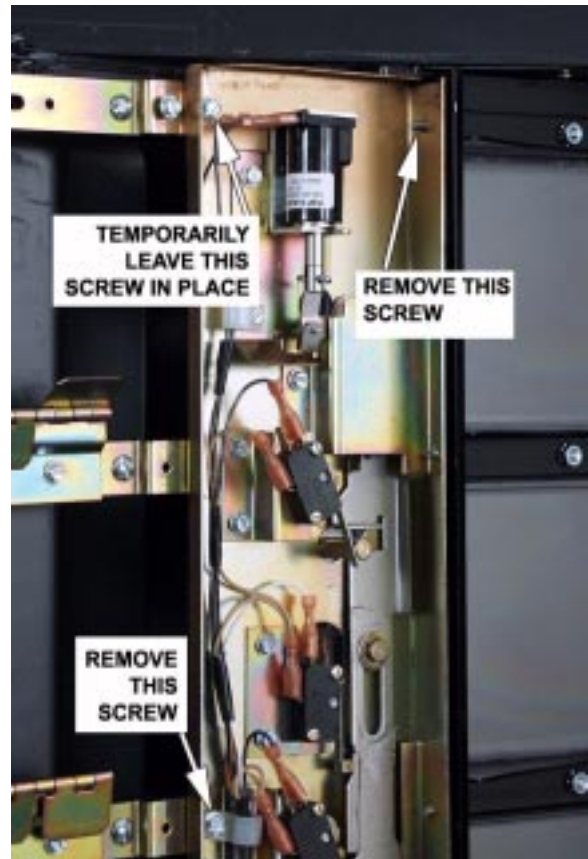

Figure 20
3. Remove four of the eight 1/4" hex head screws securing the mechanism assembly to the support angle: The top one, the 4th down from the top, the 6th down from the top, and the 8th down from the top (figure 20).